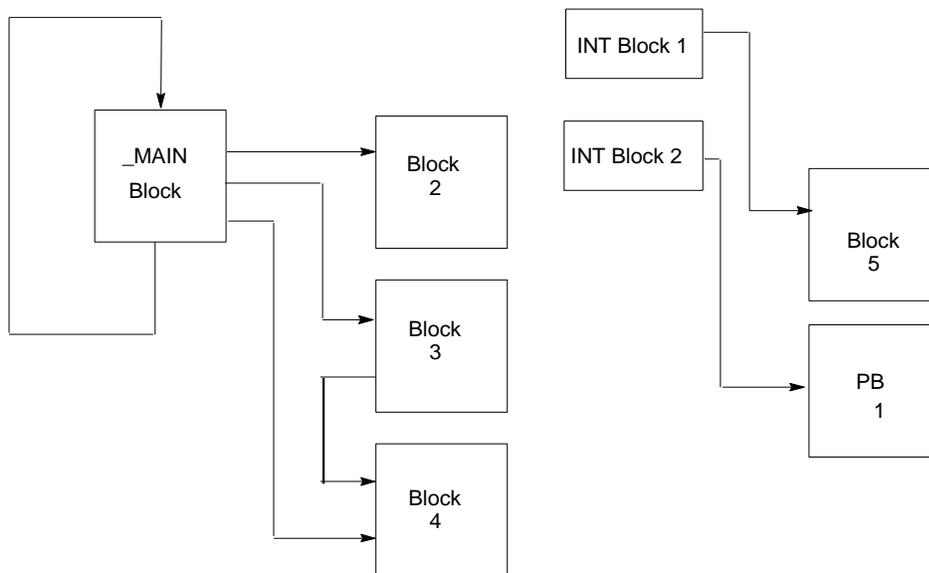

Figure 13: Conflict Avoidance when using Interrupt-Driven Blocks
**Note:** We strongly recommend that interrupt-driven blocks not be called from the `_MAIN` block or other non-interrupt driven blocks because the interrupt and non-interrupt driven blocks could be reading and writing the same global memories at indeterminate times relative to each other. In the following example (Figure 13) `INT1`, `INT2`, `BLOCK5`, and `PB1` should not be called from `_MAIN`, `BLOCK2`, `BLOCK3`, or `BLOCK4`.